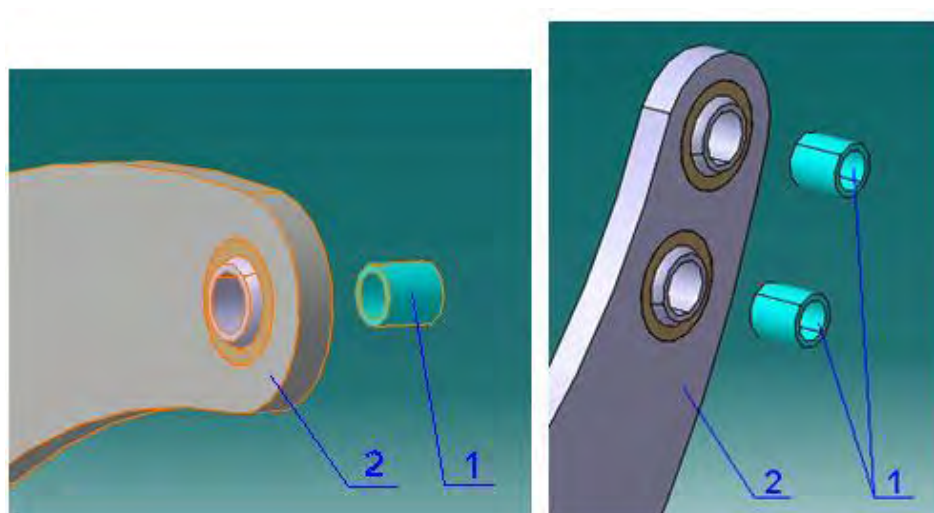

Fig. 1
Check if there is KA2010008 bushing (1) in the wing brackets (2) (KW2010030, KW2010040 for the right wing or KW2020030, KW2020040 for the left wing), Fig. 1.